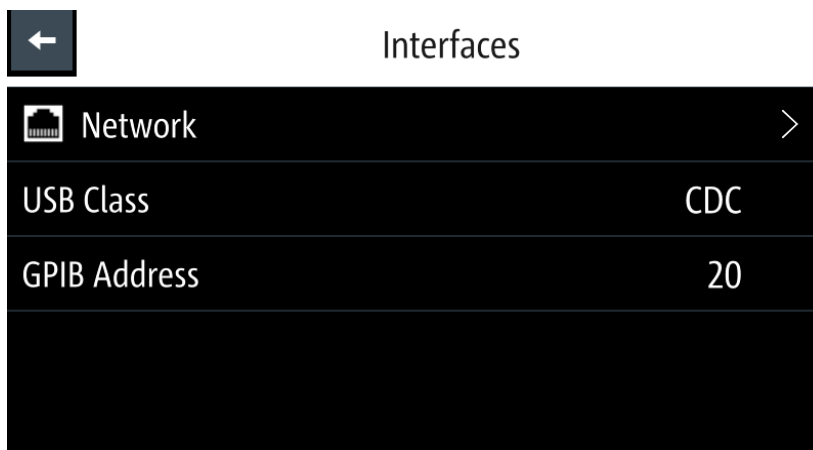

Figure 6-26: Interfaces dialog
1. Select "Network" from the Figure 6-26.
1. Select "GPIB Address" from the Figure 6-26.